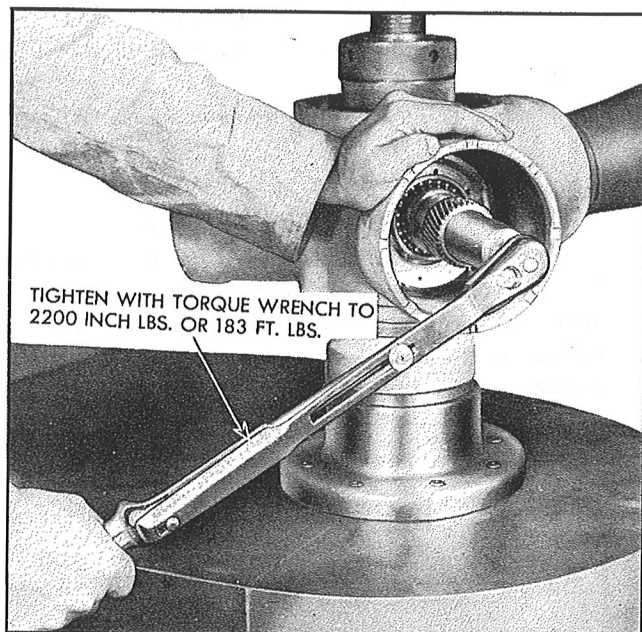

Figure 118—Installation of the Fixed Spline Bolt
**Step 7.**—Install the steel thrust washer on the fixed spline bolt and install the fixed spline bolt, using the Fixed Spline Bolt Wrench, Figure 66-2 and torque wrench. Draw up tight to 2200 inch lbs., or 183 foot lbs., as shown in Figure 118. Lock the ear of the star washer to one of the notches in the fixed spline bolt.